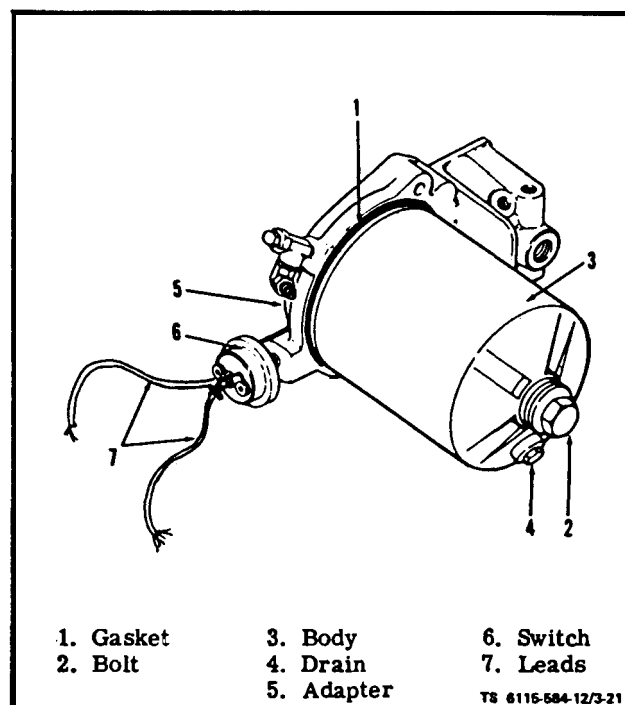

Figure 3-21. Oil filter and Oil Pressure Switch
e. Oil Filter Assembly (see figure 1-1). Inspect oil filter assembly for dents or other physical damage. Check for leaks especially at gasket (1, figure 3-21) between body (3) and adapter (5) and between bolt (2) and body (3). Check to see that drain plug (4) is securely in place and does not leak.
f. Oil Pressure Switch (see figure 3-21). Inspect oil pressure switch (6) for dents or other physical damage. Check that switch is securely mounted to oil filter adapter (5). Check for leaks where switch (6) attaches to adapter (5). Check that both electrical connections (7) to switch (6) are tight and free of corrosion.